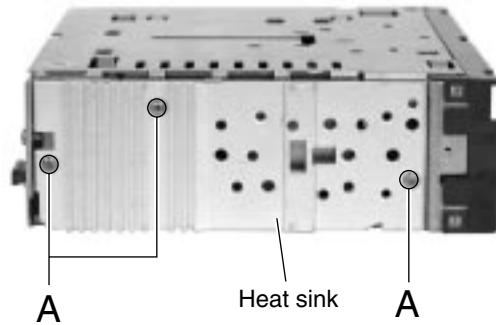

Fig.4
■ Removing the heat sink (See Fig.4)
■ Removing the head relay P.W.B. (See Fig.4)